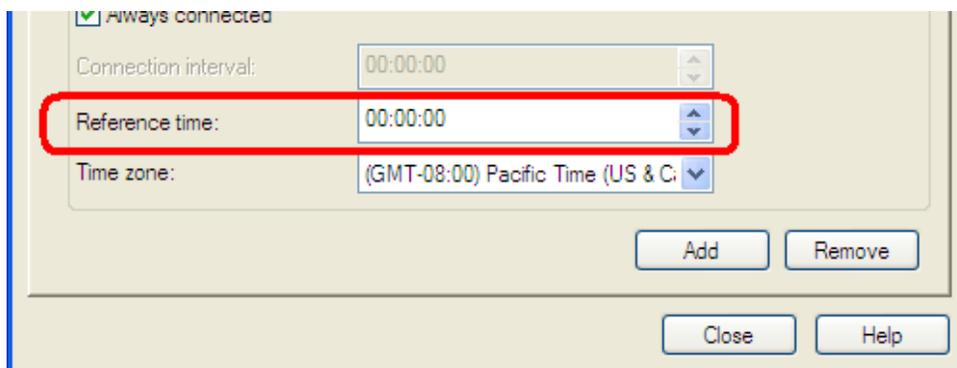

Figure 1. Reference time
3. Set the **Reference time**. [Figure 1]
- It takes one and a half (1.5) to two (2) minutes for a fully-loaded IMx to transmit its data. If each IMx unit’s reference time is offset by two (2) minutes, that will prevent multiple IMx units from transmitting data at the same time.